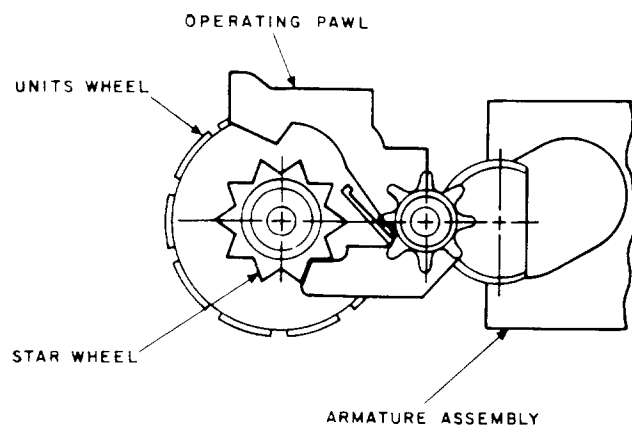

Fig. 6—Operating Pawl in Unoperated Position
- (a) The operating pawl (Fig. 6) shall advance the star wheel and the units wheel by one-half digit when the register is operated.